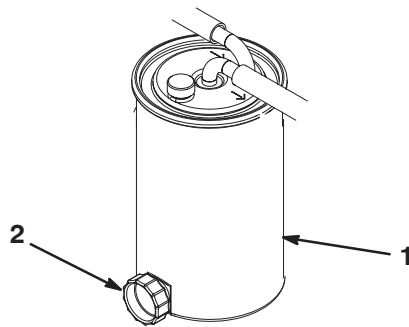

Figure 26
3. Open the drain plug on the fuel filter approximately one turn and drain any accumulated water (Fig. 26). Tighten the plug after draining.